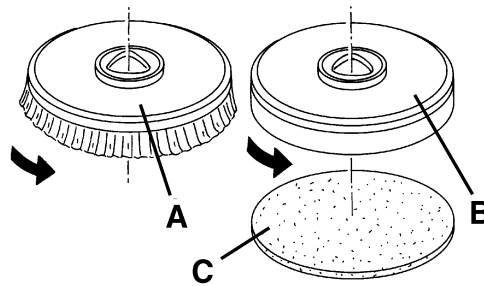

Figure 2
1. According to the kind of cleaning to be carried out, the machine can be equipped either with the brush (A, Fig. 2) or the pad-holder (B) with pad (C) together with the appropriate deck.
2. (Only for Adfinity™ 17ST - 20ST) Press the switch (71) and/or (73) to turn the machine off.